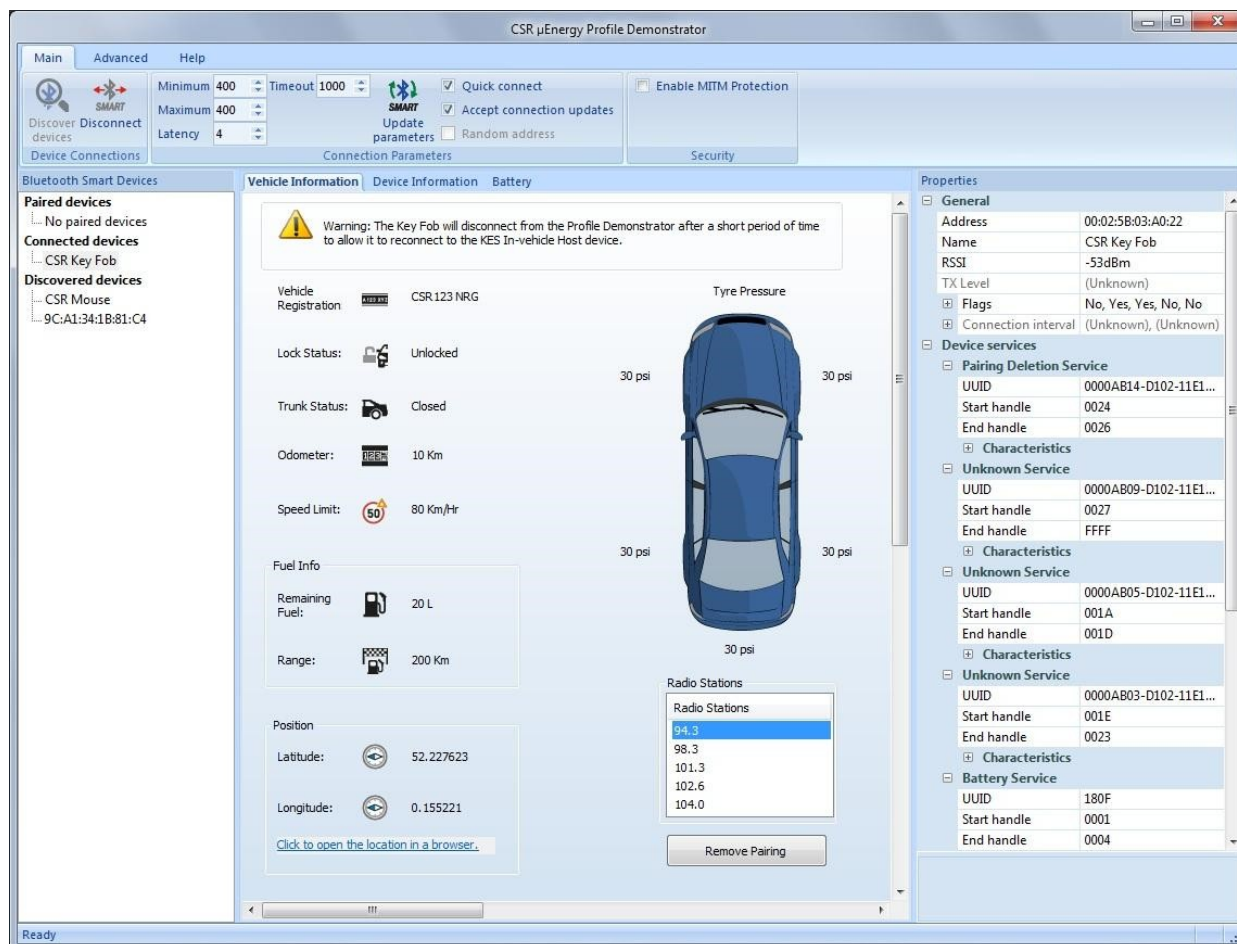

Figure 3.28: Profile Demonstrator - Vehicle Information Tab
2. Connect to the **CSR Key Fob** once discovered and displayed in the **Connected devices** list. The **Vehicle Information** tab will be shown, see Figure 3.28.